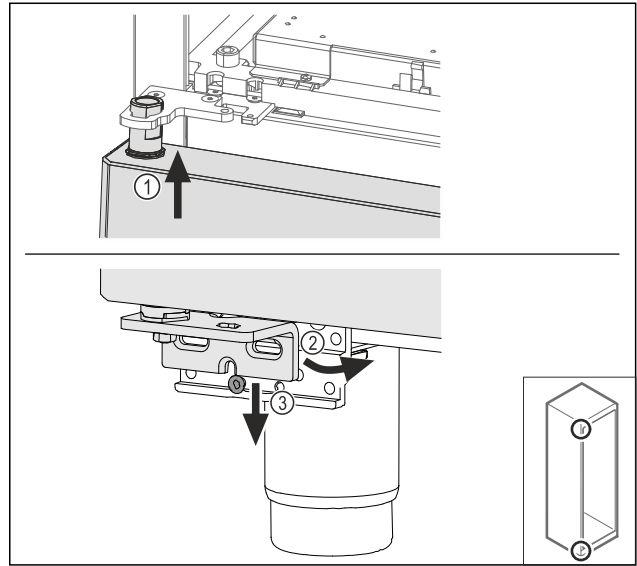

Fig. 60
- Feed in the door slightly tipped at the top Fig. 60 (1), align the door straight Fig. 60 (2) and fit the swap bearing blow screw Fig. 60 (3) at the bottom.